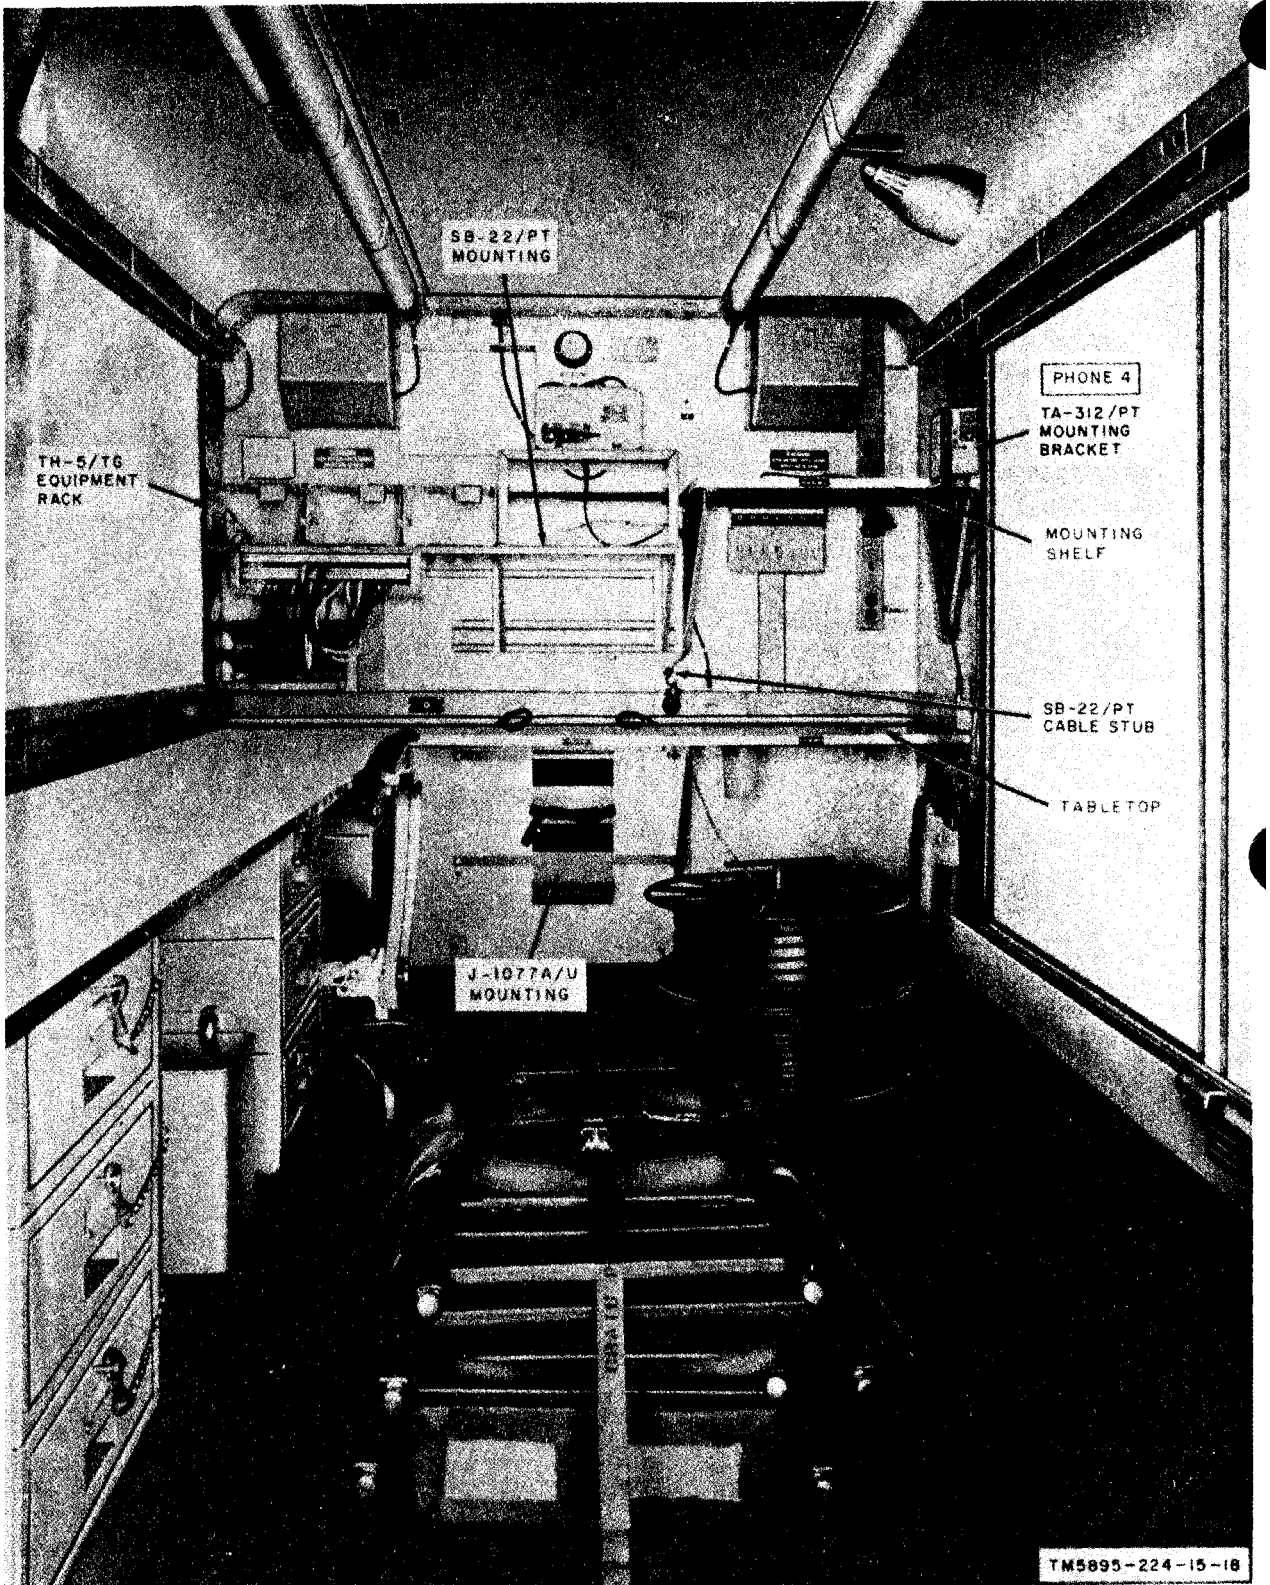

Figure 23. Shelter, Electrical Equipment S-184/MSC-32, equipment mounting facilities
- (5) *SB-22/PT cable stub* (fig. 23). The SB-22/PT cable stub is 3 feet long; and is equipped with a 26-pin connector on one end and prepared leads on the other end.
d. Remove the cable clamps that hold the SB-22/PT cable stub in place (fig. 23).